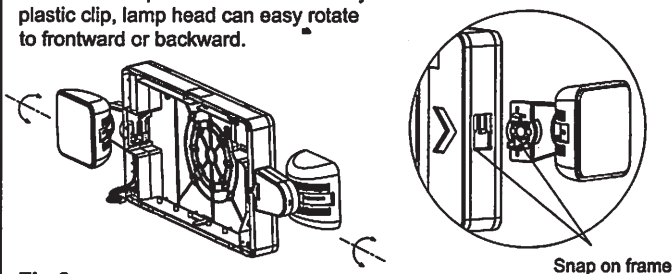

Fig 6
3. Remove side hole plug from housing, snap lamp heads on the unit and connect to PC board (see Fig 6).
5. Snap lamp heads on the unit and connect to PC board (see Fig 6).